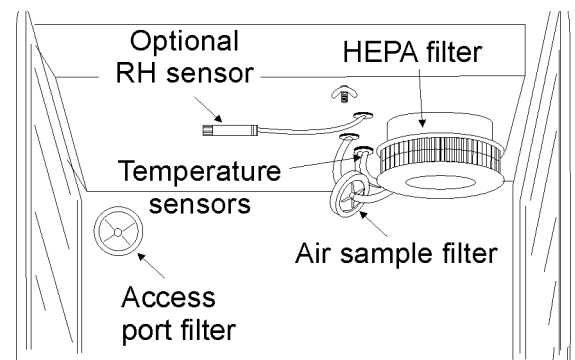

Figure 1-7a. Filter and Sensor Locations
Locate the opening in the top left corner of the interior chamber. Remove the tape from the opening on the outside of the unit. Locate the stopper with filter in the hardware bag. Install in the opening inside the chamber. See Figure 1-7a.
4. Insert the free end of the air sample filter tubing into the larger hole in the back of the blower scroll. Refer to Figures 1-7a and 1-7b.
3. Install the filter as shown in Figure 1-7a.